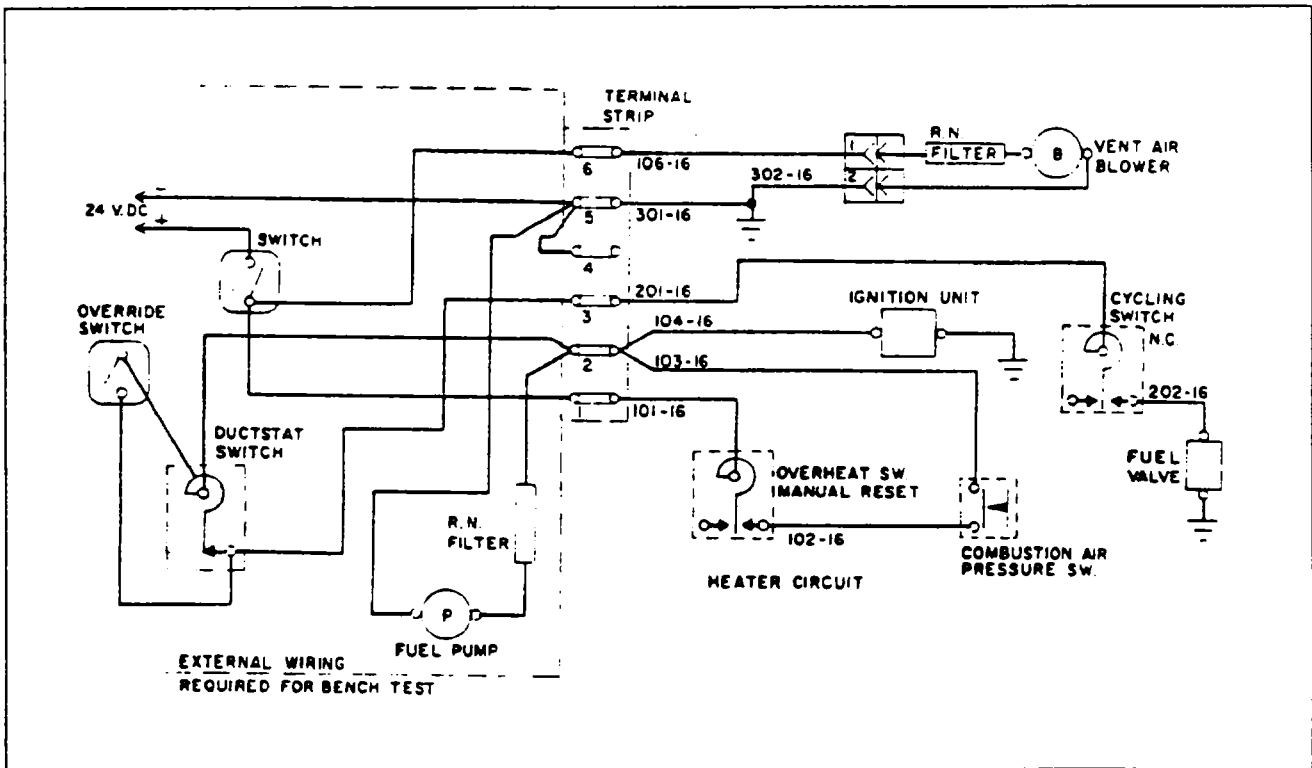

Figure 21-19. Wiring Connections for Heater Operation Test
3. Connect components and heater as outlined in the wiring connection diagram, Figure 21-19. The power supply switch should be open.